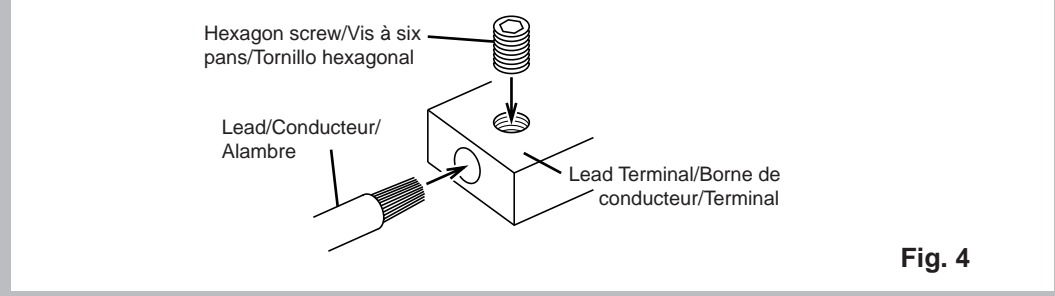

Fig. 4
3. Remove the screw attached on the unit. Insert the lead end into the lead terminal. Tighten the hexagon screw with the hexagon wrench, and the lead will be fixed. (Fig. 4)